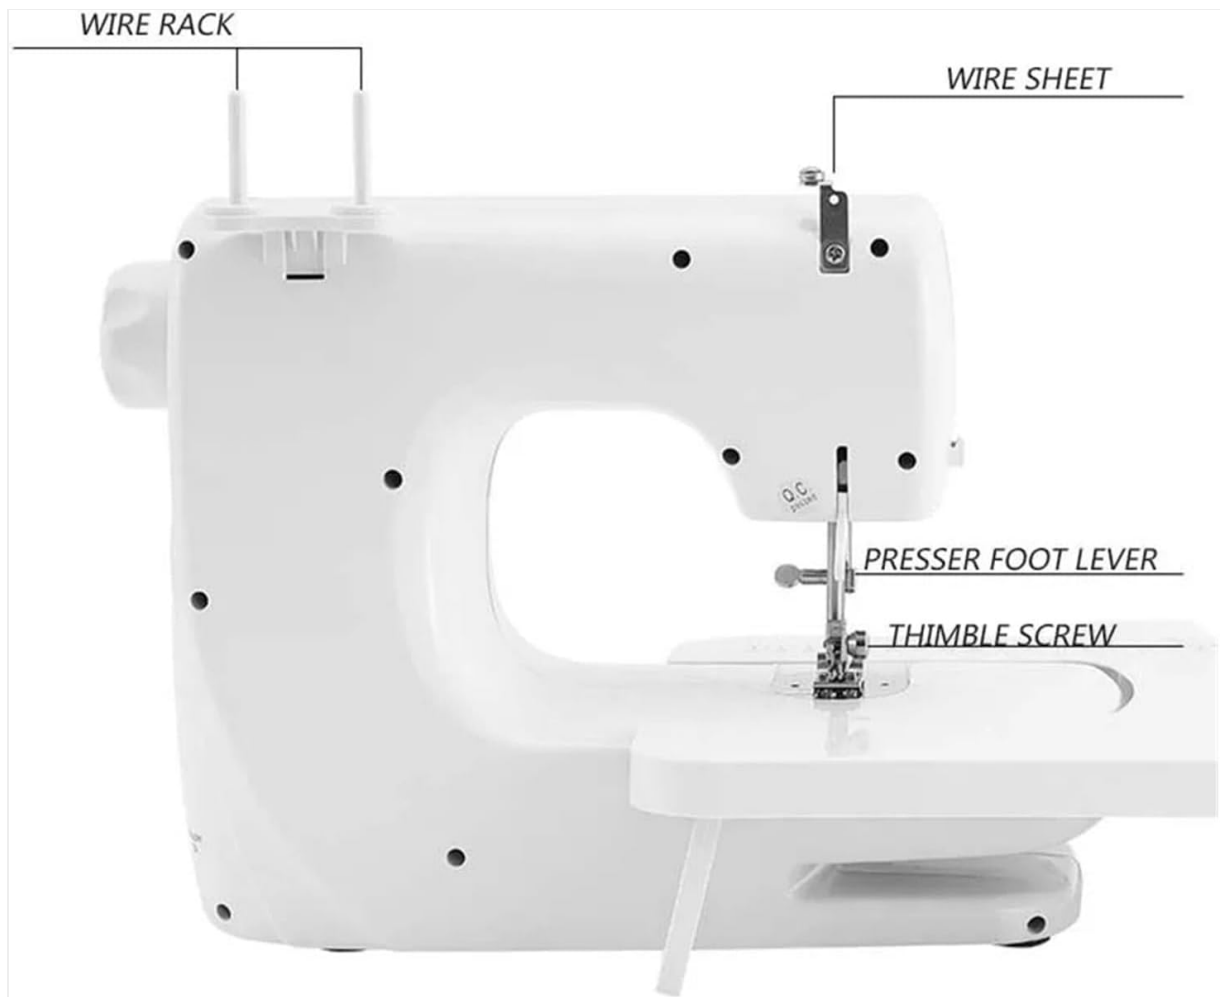

Figure 3.1: Main Components of the Sewing Machine
1. Locate the Power Plug socket on the machine (refer to Figure 3.1).
3. If using the foot pedal, connect it to the Foot Plug socket (refer to Figure 3.1).
1. Place a spool of thread on the Wire Rack (refer to Figure 3.1 and 3.2).
3. Follow the threading path indicated on the machine, passing through the Clamping Piece and Upper Thread Tightness Adjustment (refer to Figure 3.1).
2. Open the Visual Bottom Line Box to access the bobbin case (refer to Figure 3.1).
The UFR-608A offers 12 types of stitches, including straight and curved lines. To select a stitch, turn the Stitch Adjustment dial (refer to Figure 3.1) to the desired stitch pattern number.
To reinforce seams at the beginning and end of your stitching, use the Reverse Stitch lever (refer to Figure 3.1). Hold the lever down to sew backward, then release to continue sewing forward.
The integrated flashlight (refer to Figure 3.1) provides illumination to your sewing area, improving visibility and precision, especially in dimly lit environments.